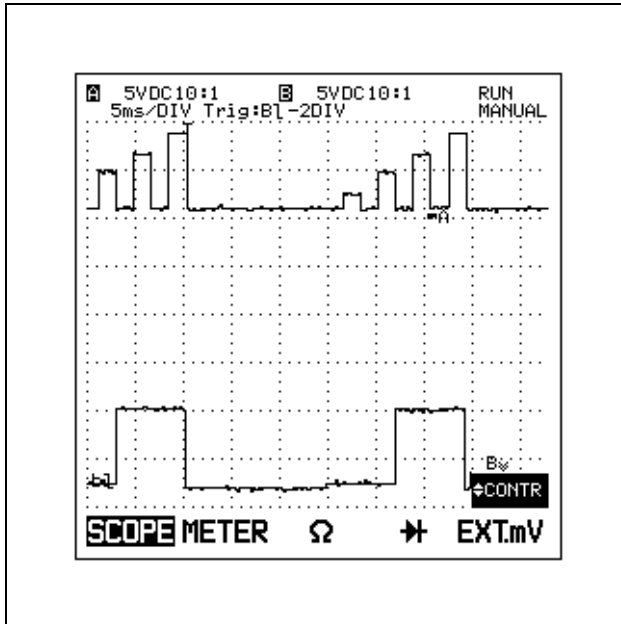

Figure 8-21 Setup Display for Math
3. Use  and  and  and  until you have a display as shown in Figure 8-21.